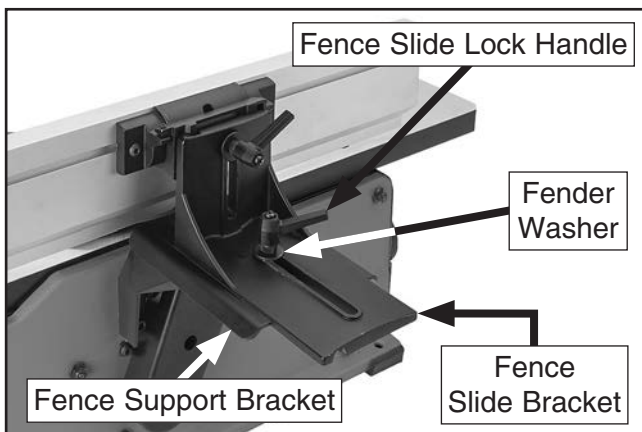

Figure 13. Fence support bracket components.
5. Place fence slide bracket on fence support bracket and insert fence slide lock handle and fender washer through center of brackets (see **Figure 13**).